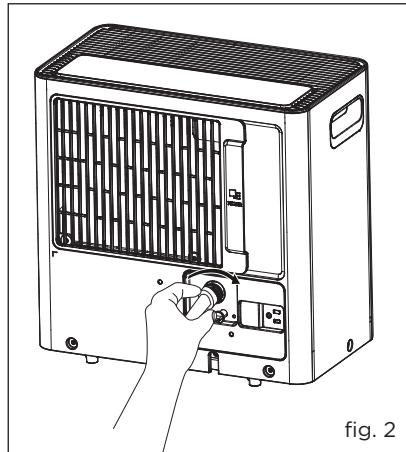

fig. 2
d. Screw the garden hose onto the threaded portion of the drain connector. (fig.2)